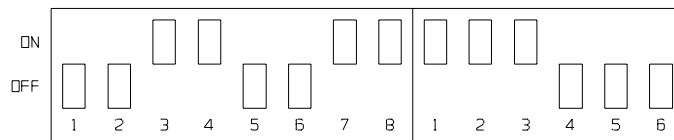

Figure 8: Printer Dip Switch Settings
4. Connect the low-voltage cable with the red colored boot to the LOW VOLTAGE RED receptacle (21). Make sure the connector locks to the receptacle. If required, connect the low-voltage cable with the blue colored boot to the LOW VOLTAGE BLUE receptacle (22).
6. Connect the printer to the PRINTER/ RS-232 receptacle (23) of the test set if desired. Make sure the bayonet type plug is fully locked on the receptacle. Make sure the dip switches on the bottom of the printer are set as shown in Figure 8: